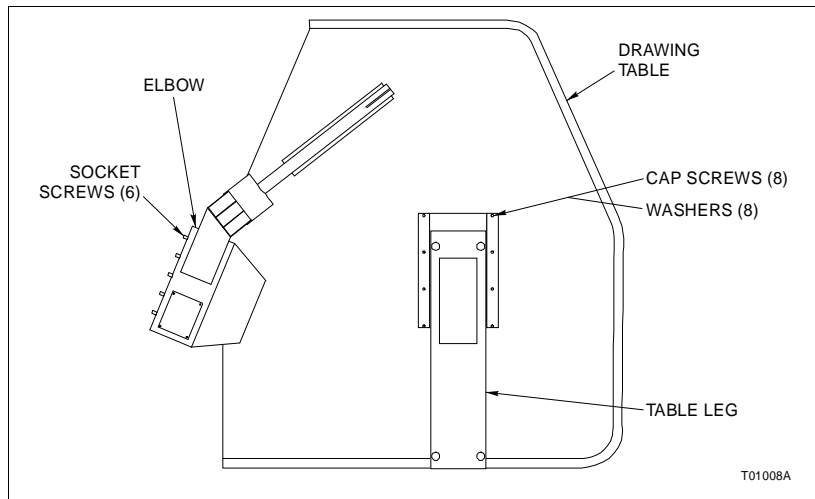

Figure PR18-1. Drawing Table Assembly
- 3. Use the eight cap screws and eight washers to attach the table leg to the drawing table as shown in Figure PR18-1. Tighten them using the M4 Allen wrench.
NOTE: Figure PR18-1 shows the drawing table without bookcase and wedge table. The assembly procedure for the drawing table with bookcase and wedge table is the same.